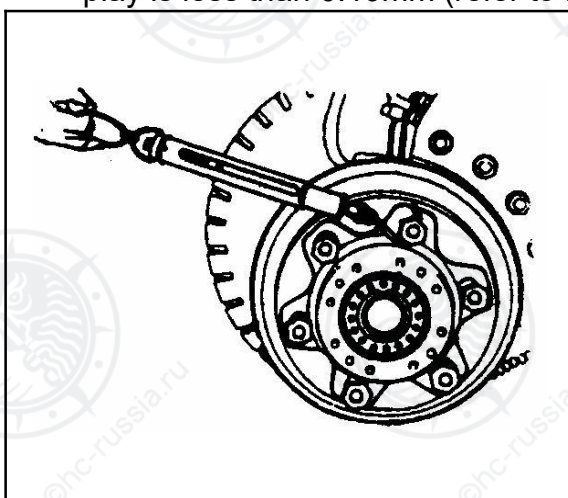

Fig.5-6
- 7) Turn wheel hub back and forth two or three rotations to see if rotation starting torque is within specifications. Rotation starting force: 10N~29N (refer to Fig.5-6);